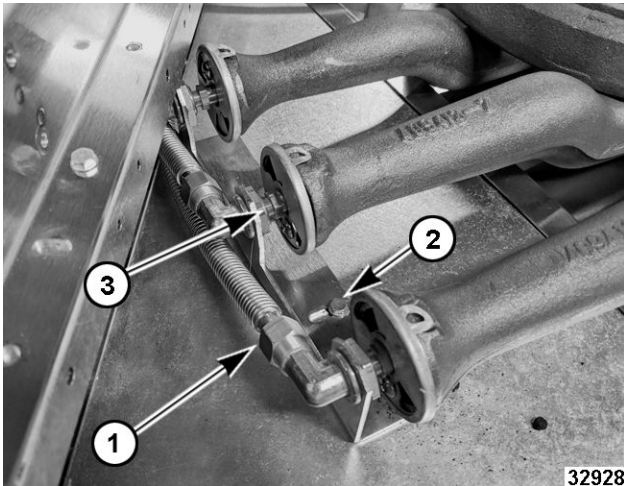

Fig. 97
- Remove burner gas flex lines (1, Fig. 97) in three places.
- Remove screws (2, Fig. 97) in two places securing burner nozzle mount bracket.
- Remove burner nozzle bracket and burner nozzles (3, Fig. 97).